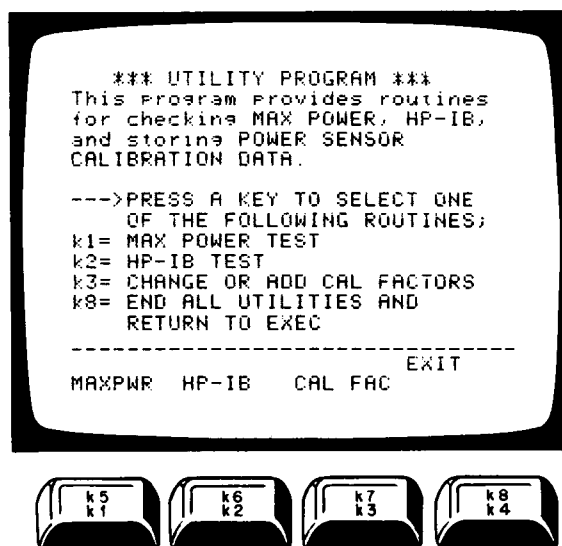

Figure 5-24. Utility Menu
12. When the Main Menu, Figure 5-2, is displayed, press K6 to run the "Utilities" program. The Utility Menu Figure 5-24, will be displayed.